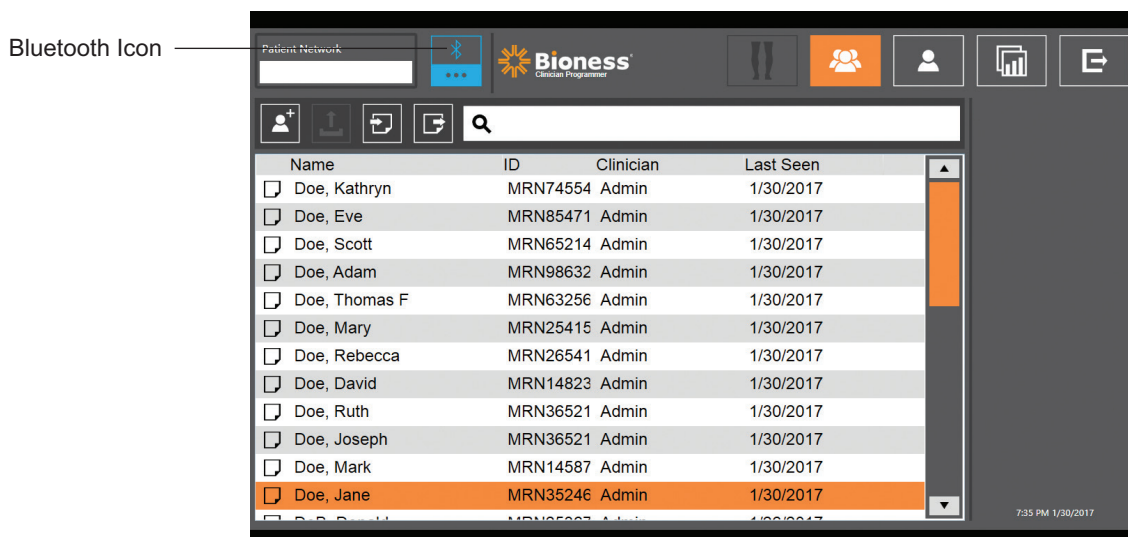

Figure 9-0: Bluetooth® Icon
3. The Patient Database Screen will appear. In the navigation, press the Bluetooth® icon. See Figure 9-0.